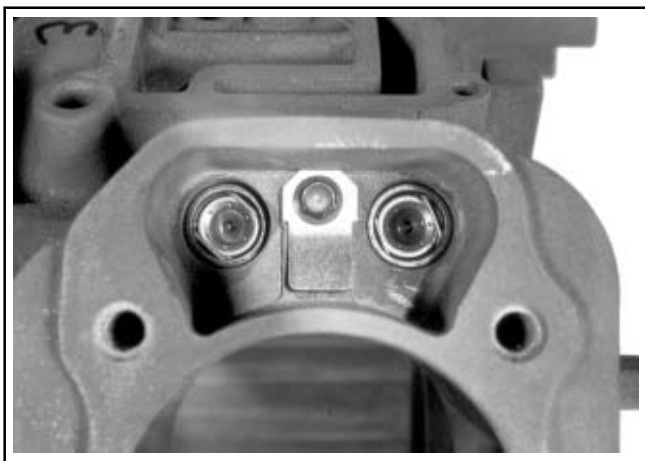

Figure 11-33. Installed Breather Reed.
3. If the breather reeds and stops were removed from the crankcase, reinstall them at this time and secure with the hex. flange screw. Torque the screw to **4.0 N·m (35 in. lb.)**. See Figure 11-33.